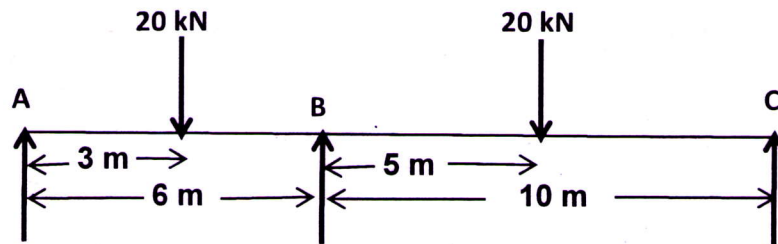

Figure 4
- 14 Analyse the continuous beam shown in figure 4 using method of consistent deformation method. (Take V_B as redundant) 14